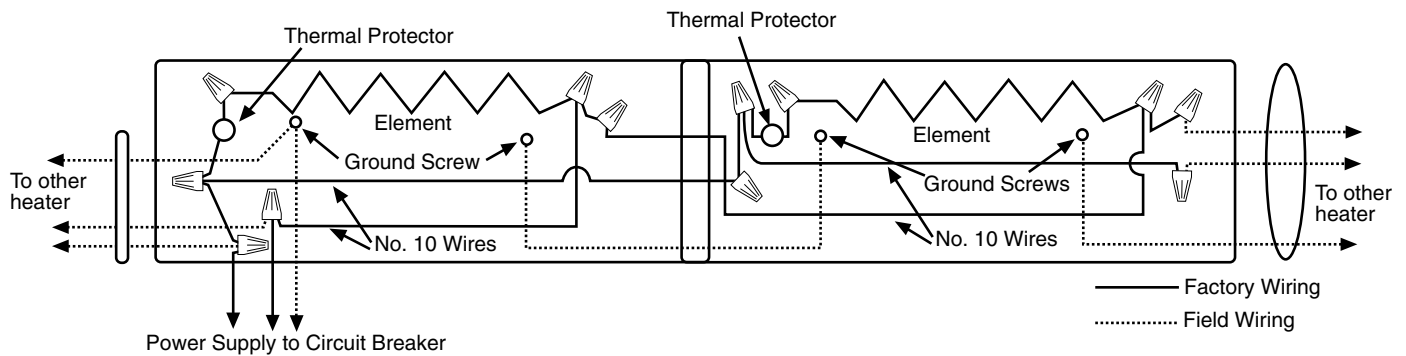

Fig. 8
- Following the wiring diagram secured to the heater, make the electrical connections. Refer to Fig. 8 to connect the other heaters in parallel. Grounding of the other heaters is accomplished by connecting a jumper wire (not supplied) between the two adjacent heaters.
IMPORTANT NOTE: These heaters are provided with a built-in safety limit (Thermal Protector— see Fig. 8) to automatically turn off the heater if it is blocked or otherwise overheats due to an abnormal condition. The heaters should not be cycling off on this safety control during normal use. If this is occurring, check heater installation to assure it has adequate clearances and the free airflow around heater is not restricted. If heater continues to cycle on this safety control, discontinue using until it can be inspected and/or repaired by a qualified electrician.